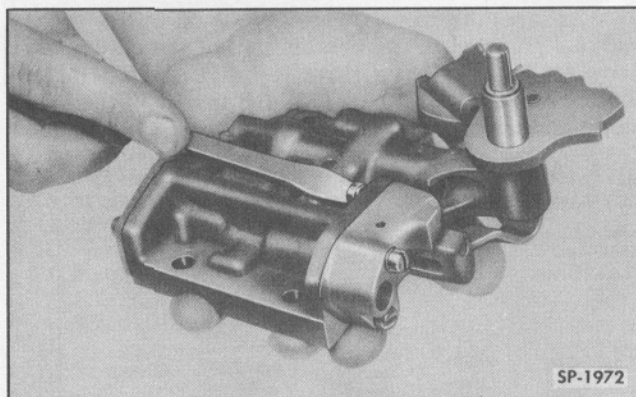

Fig. 40—Removing Detent Retainer
1. Remove the three screws attaching the detent plunger retainer to the outer valve body and remove the retainer and plate (Fig. 40).